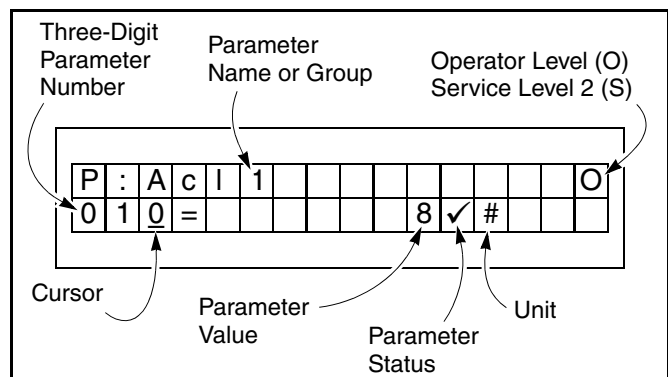

Figure 33
Figure 33 shows that auto-close delay timer ACL1 is currently set with an eight (8) second delay.